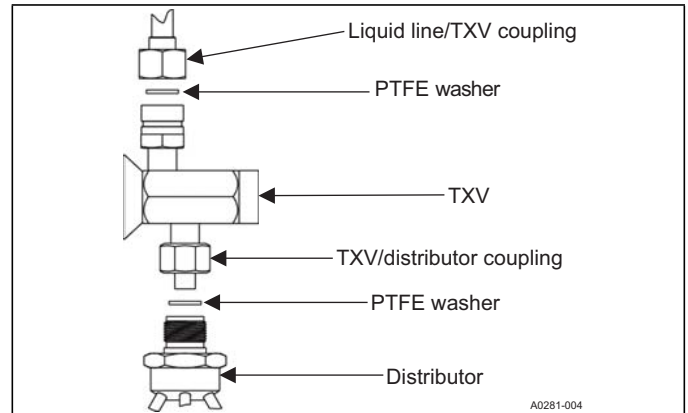

Figure 1: TXV installation
4. Ensure the PTFE washer is seated in the distributor. Install the TXV into the distributor assembly with the supplied fittings. Hand tighten and turn an additional 1/4 turn to seal. Do not overtighten fittings. See **Figure 1**.